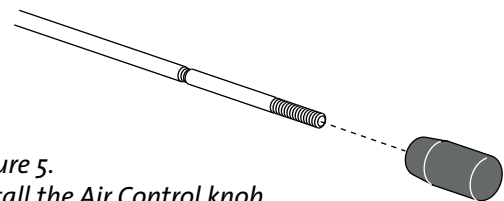

Figure 5.
2. Locate the knob in the hardware bag and screw it on to the end of the air control rod, under the ash lip, as shown in **fig.5**.